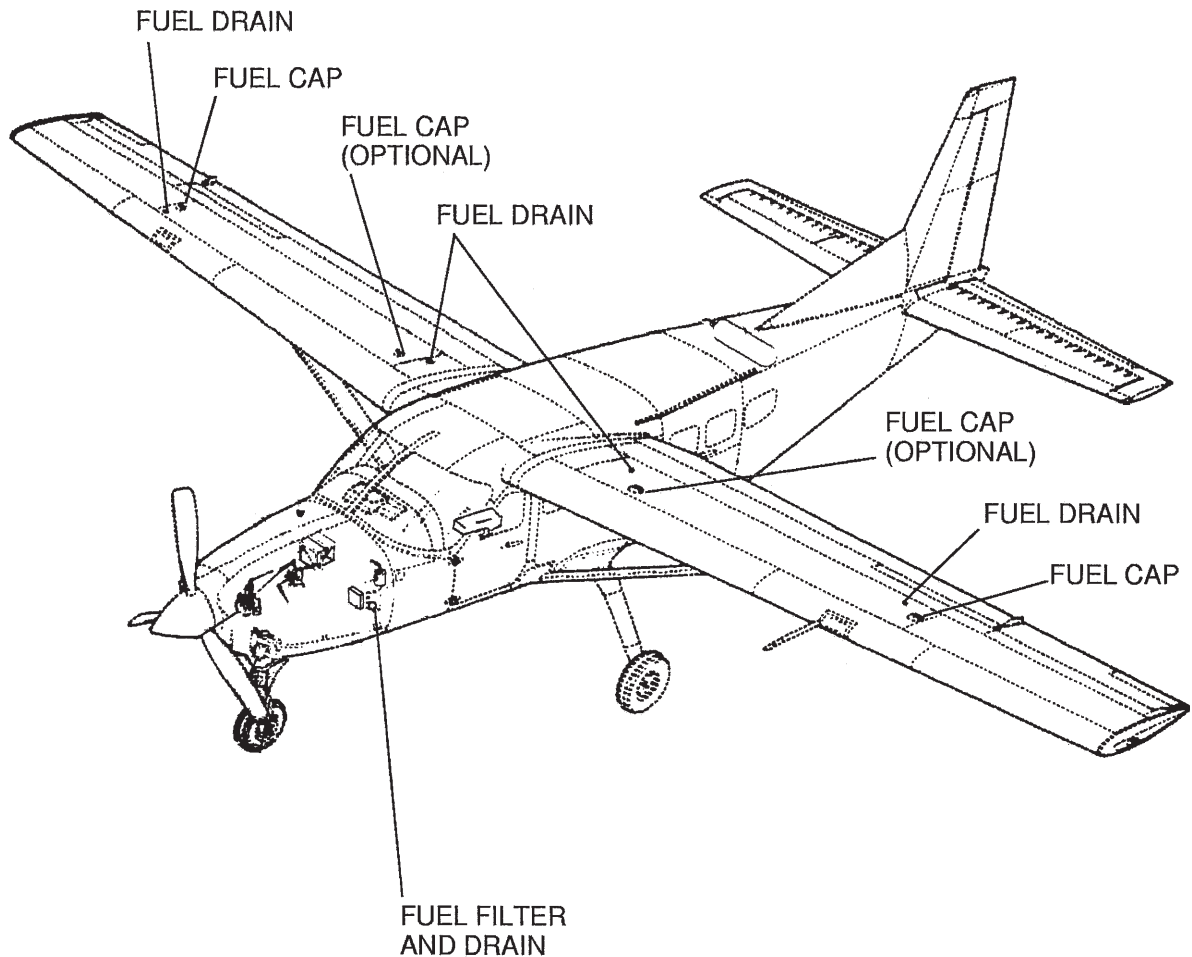

Figure 1
(1) The fuel filler caps are located on top of the wing, forward of the spoilers. See Figure 1.
(1) Fuel drains are provided at various locations throughout the fuel system for drainage of water and sediment from the fuel system. See Figure 1.